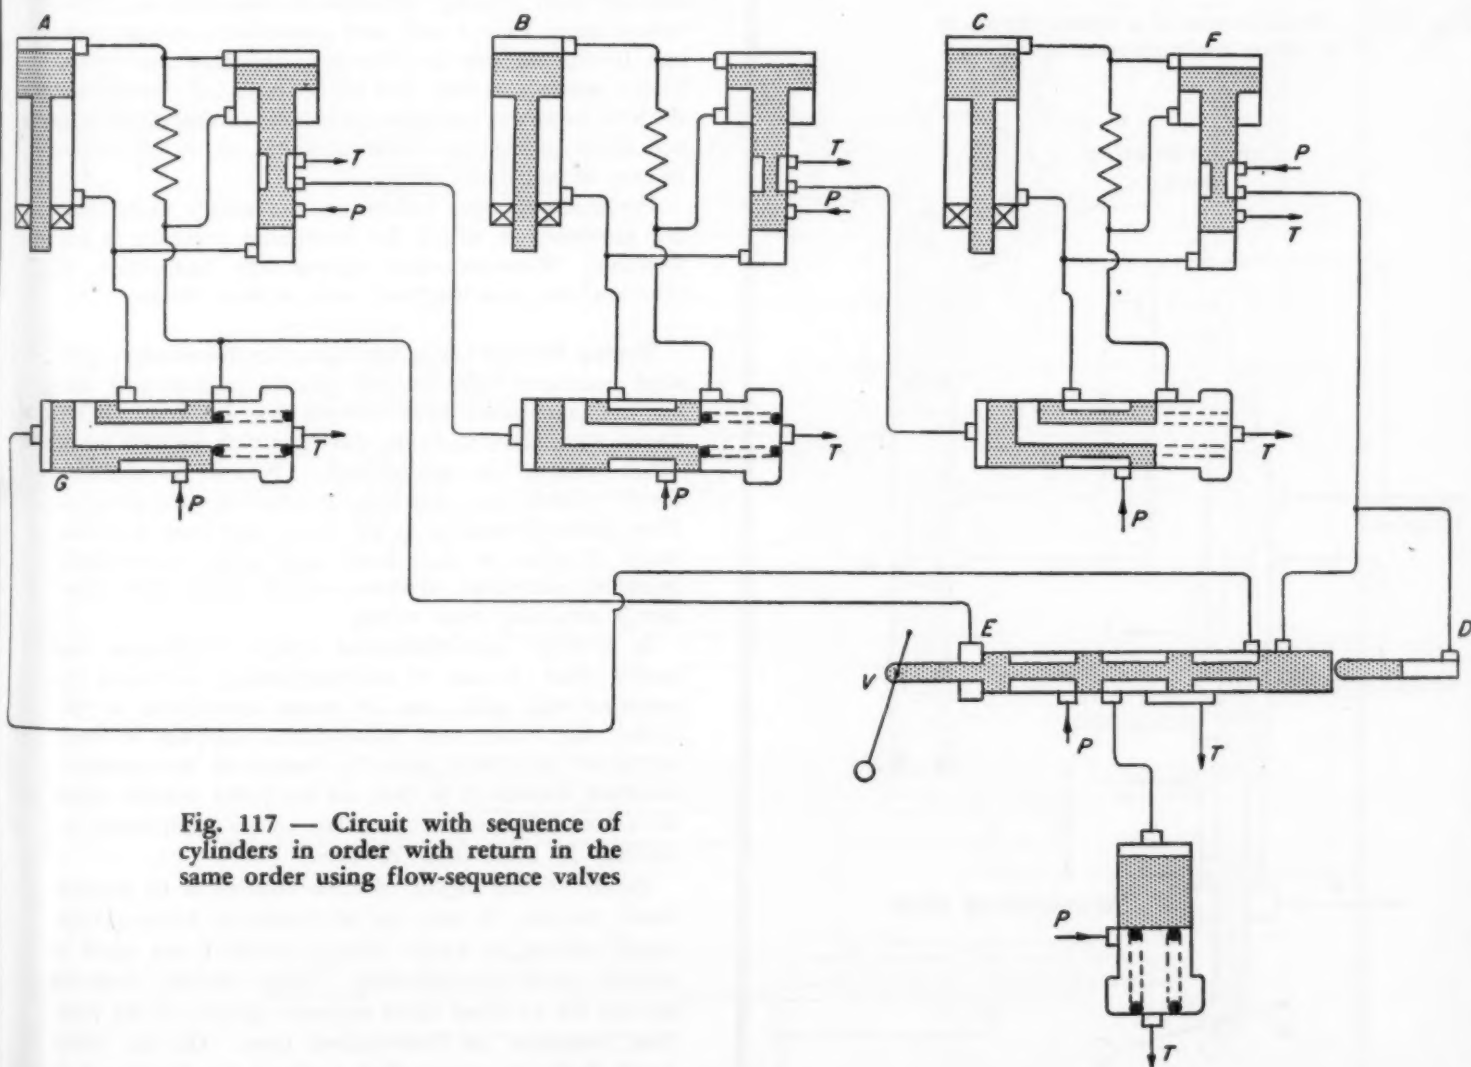

Fig. 117 — Circuit with sequence of cylinders in order with return in the same order using flow-sequence valves
**Series Sequence Systems:** Consider a sequence in which all cylinders move forward in a given order, but reverse in a different order, e.g.  $ABC:A^{-1}C^{-1}B^{-1}$ . Examples of this kind have been given in Figs. 104 and 112 for two cylinders only, and for half-cycle control. The principle of the above circuits can be extended to any number of cylinders and to full cycle systems. Each (except the last to move in each half of the cycle) must operate two full-flow valves that are connected in series with the selector, which must be automatically reversed (excluding the case of half-cycle operation) at the end of the first half of the cycle. As compared with the system of Fig. 117 which requires  $n$  selectors if there are  $n$  cylinders, the present system requires one selector only, but  $2n-1$  full size valves altogether.